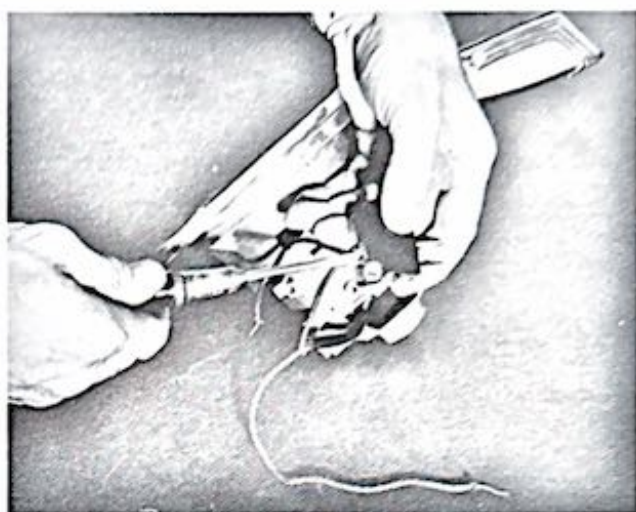

Figure 1-50. Removing leads from side terminal of foot switch.
(1) Remove the two screws (34) that secure the foot switch (33) to the motor housing; disconnect the remaining headlight lead and the field lead from the terminal at the side of the switch as shown in figure 1-50.